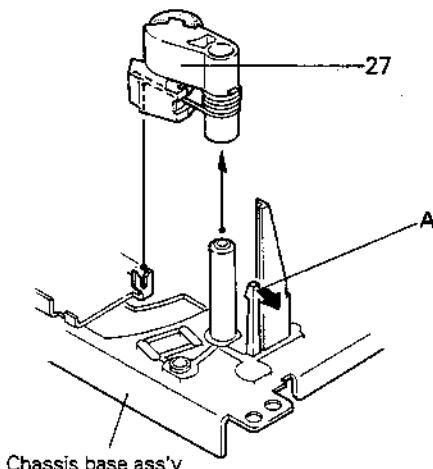
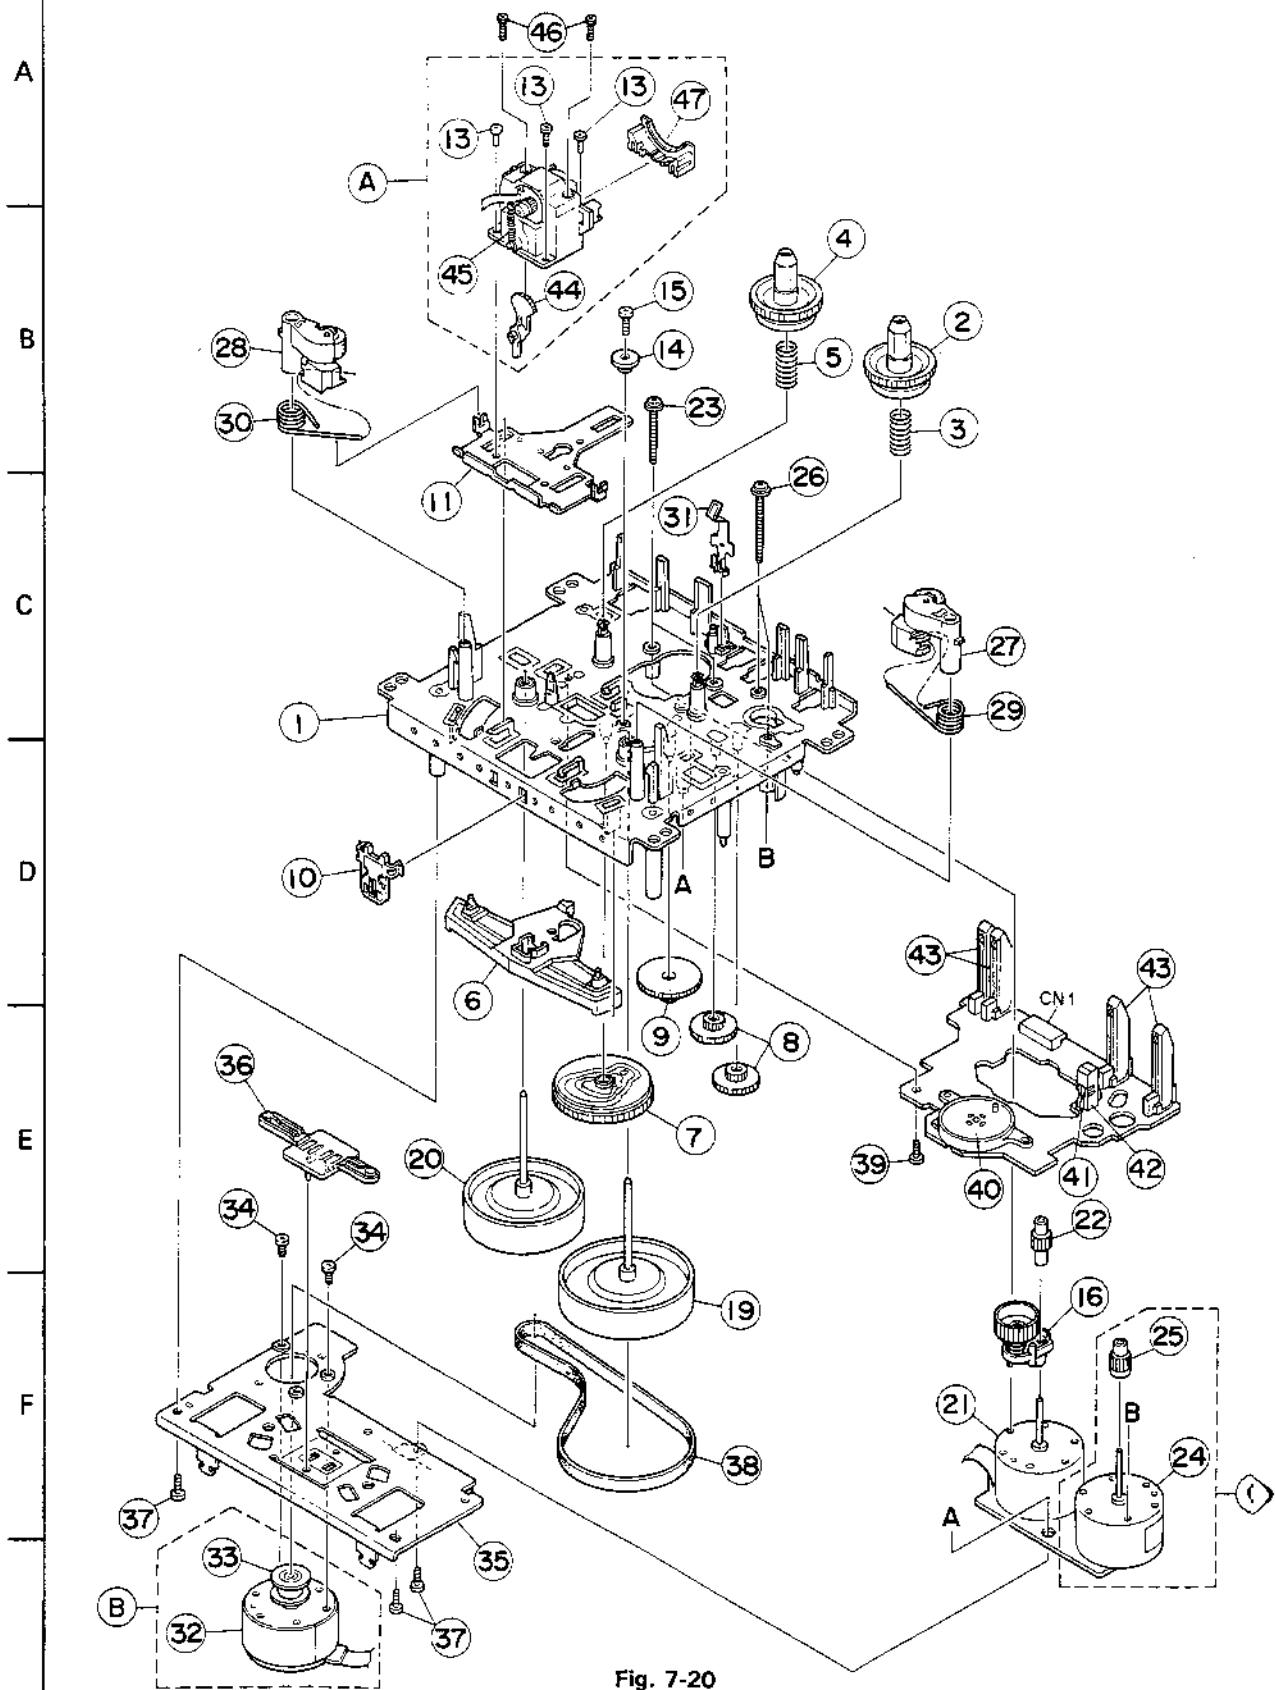

Fig. 7-22
Fig. 7-20
■ **Head mount assembly (A) (Fig. 7-20, 7-21)**
■ **Pinch roller assembly (Fig. 7-22)**
1. Expand the pawl (A) retaining the pinch roller assembly (27) on the right side in the direction of the arrow while pulling out the pinch roller assembly upwards.
2. In the same manner as above, expand the pawl retaining the pinch roller assembly (28) on the left side to remove the left pinch roller assembly. (Fig. 7-20, too)